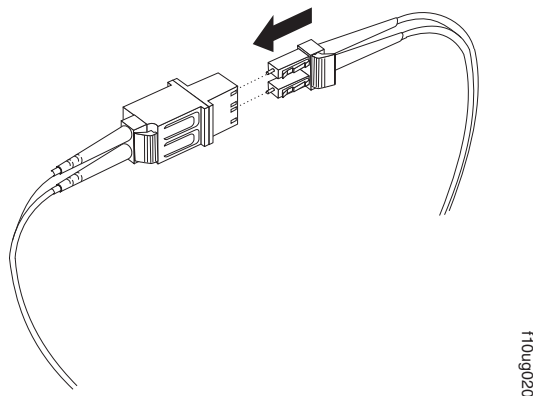

Figure 38. Connecting an LC-LC cable into the LC-SC cable adapter
4. Carefully insert the other end of the LC-LC cable into the LC connector end of the LC-SC cable adapter as shown in Figure 38. Push in the connector until it clicks into place.